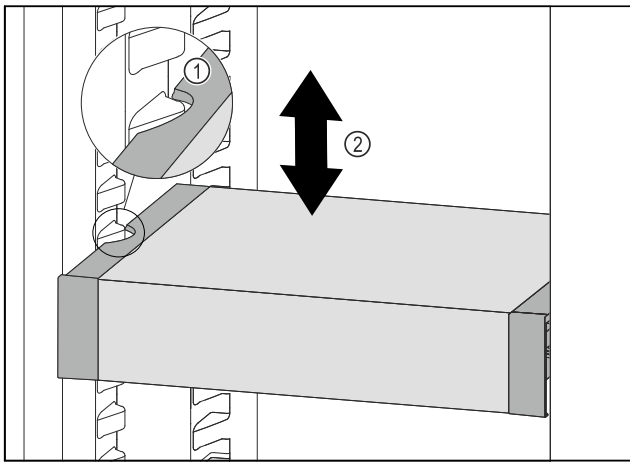

Fig. 91
- ▶ Pull VarioSafe forwards until the recesses in the side of the VarioSafe are at the level of the support rib in the refrigerator compartment. Fig. 91 (1)
- ▶ Move VarioSafe up or down in the refrigerator compartment until the desired height is reached. Fig. 91 (2)